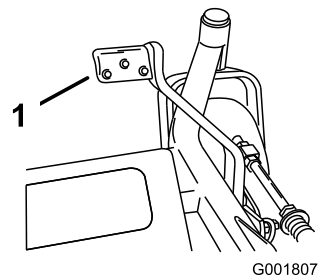

Figure 24
2. Press on the lift assist lever while pulling up on the height-of-cut lever (Figure 24).